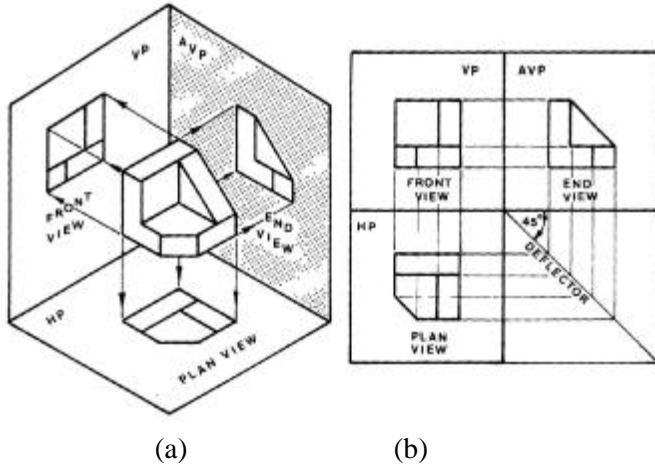
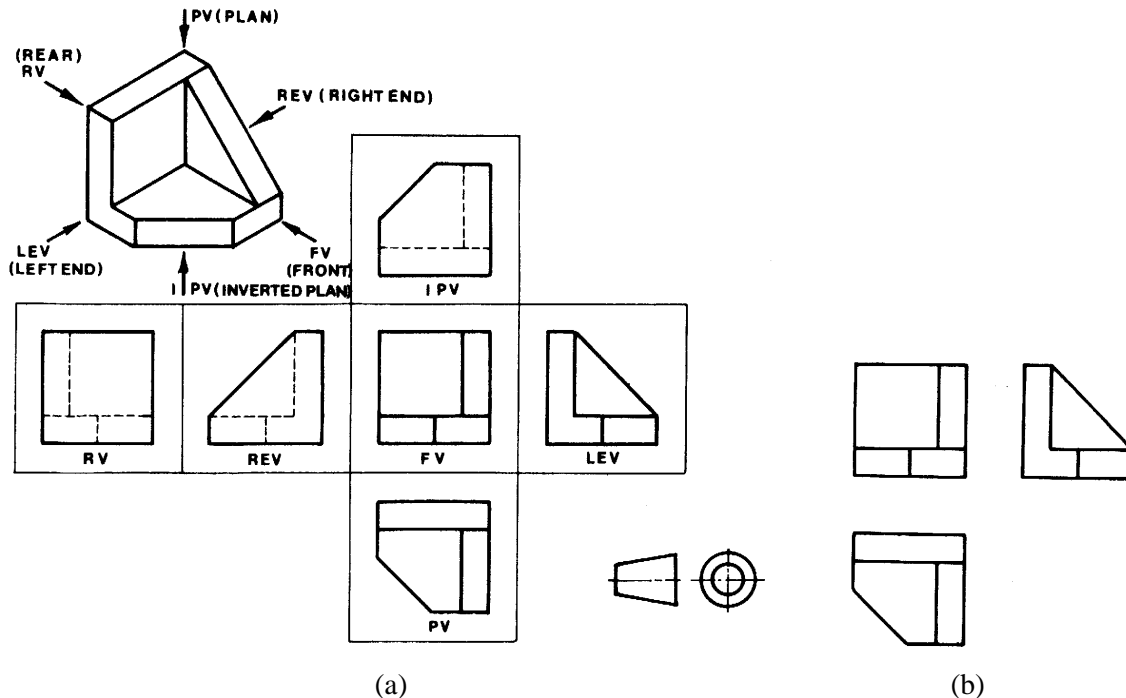

Figure 3.2 First-angle projection
Figure 3.3 Views in first-angle projection
In first-angle projection, an object is positioned in the space of the first-angle quadrant between two planes Figure 3.2(a). A view of the object is projected by drawing parallel projecting lines, or projectors, from the object to the vertical principal plane (VP). This view on VP is called a front view. A view similarly projected on to the horizontal principal plane (HP) is called a plan view.
For the complete description of the object, an additional plane, called the auxiliary vertical plane (AVP), is used at 90° to the principal planes, and the view projected on to that plane is called an end view. By means of projectors, all three planes can be unfolded and three views of the object can be shown simultaneously on drawing paper as in Figure 3.2(b). The end view is projected horizontally and the plan view vertically from the front view. Sometimes it is necessary to show six views of an object as in Figure 3.3(a). As a rule, the minimum number of views should be used, especially to represent simple objects.
In common practice only three views are used: a front view, an end view, and a plan view. These three views are sufficient for a complete description of objects as shown in Figure 3.3(b).